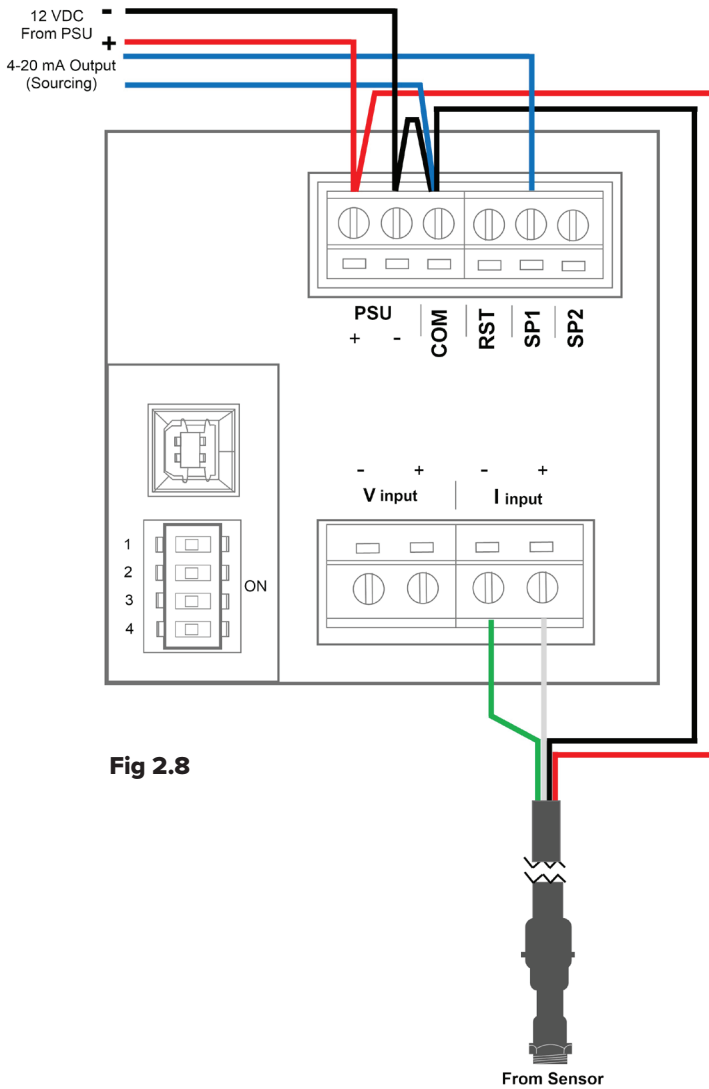

Fig 2.8
10. If being used, connect 4-20 mA output to external equipment such as a VFD (see Fig.2.8).